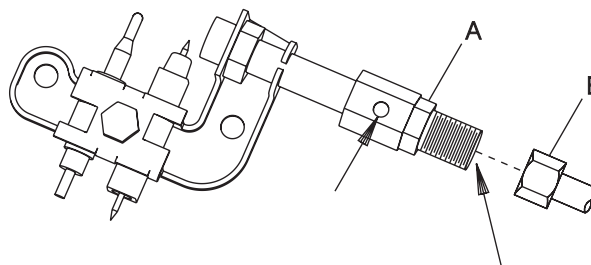

Figure 14
Oxygen Depletion Sensor Pilot (Figure 14)
5. Disconnect pilot tubing from pilot (see Figure 14, Page 14). Grasp nut A with a wrench when removing nut B with a second wrench.